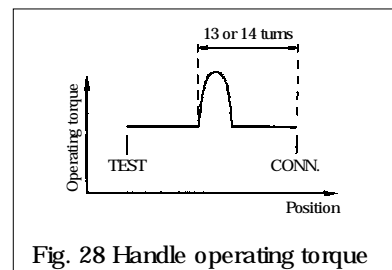

Fig. 28 Handle operating torque
- When the main contact starts engaging, the force required to turn the handle will increase as shown in Fig. 28. This symptom does not mean a malfunction. Continue to turn the handle. Rotating the handle more 13 or 14 turns moves the breaker body to the CONN. position, where the handle cannot be turned with its max. operating torque.